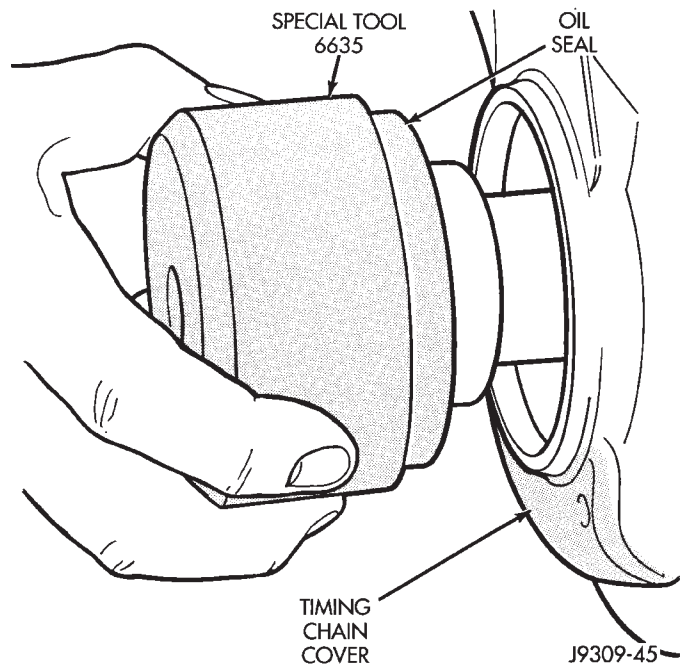

Fig. 44 Position Tool and Seal onto Crankshaft
(6) Position the seal and tool onto the crankshaft (Fig. 44).